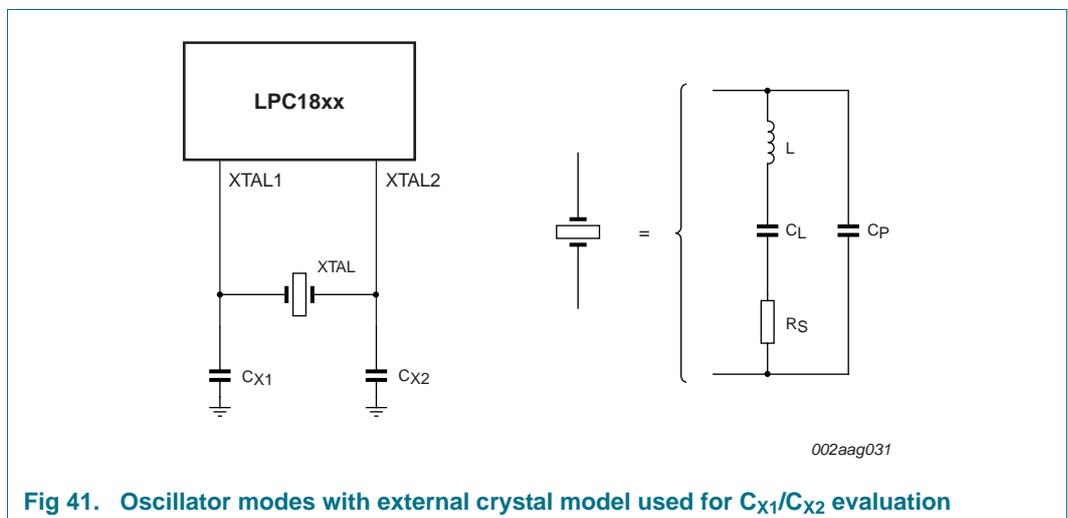

Fig 41. Oscillator modes with external crystal model used for C_{X1}/C_{X2} evaluation
- External components and models used in oscillation mode are shown in Figure 41, and in Table 40 and Table 41. Since the feedback resistance is integrated on chip, only a crystal and the capacitances C_{X1} and C_{X2} need to be connected externally in case of fundamental mode oscillation (L , C_L and R_s represent the fundamental frequency). Capacitance C_P in Figure 41 represents the parallel package capacitance and must not be larger than 7 pF. Parameters F_C , C_L , R_s and C_P are supplied by the crystal manufacturer.